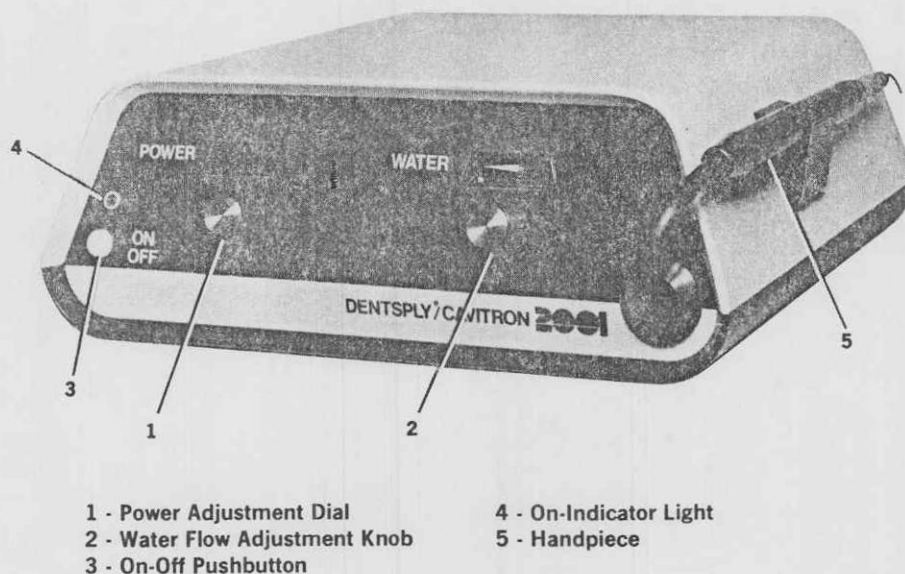

FIGURE 1. UNIT CONTROL PANEL
The electronic generator enclosed in the cabinet produces the power required for activating the handpiece. The following controls are found on its control panel (Figure 1):
On receipt of equipment, unpack carefully. Check that the ON-OFF switch (Figure 1 Item 3) is in the "OFF" (out) position and complete the installation.
- a. Step on foot control or flick the finger switch once. Insert should become activated and water should flow from insert water outlet. If no water flows from water outlet, turn Water Flow Adjustment Knob (see Figure 1) in a clockwise direction until water flow begins.